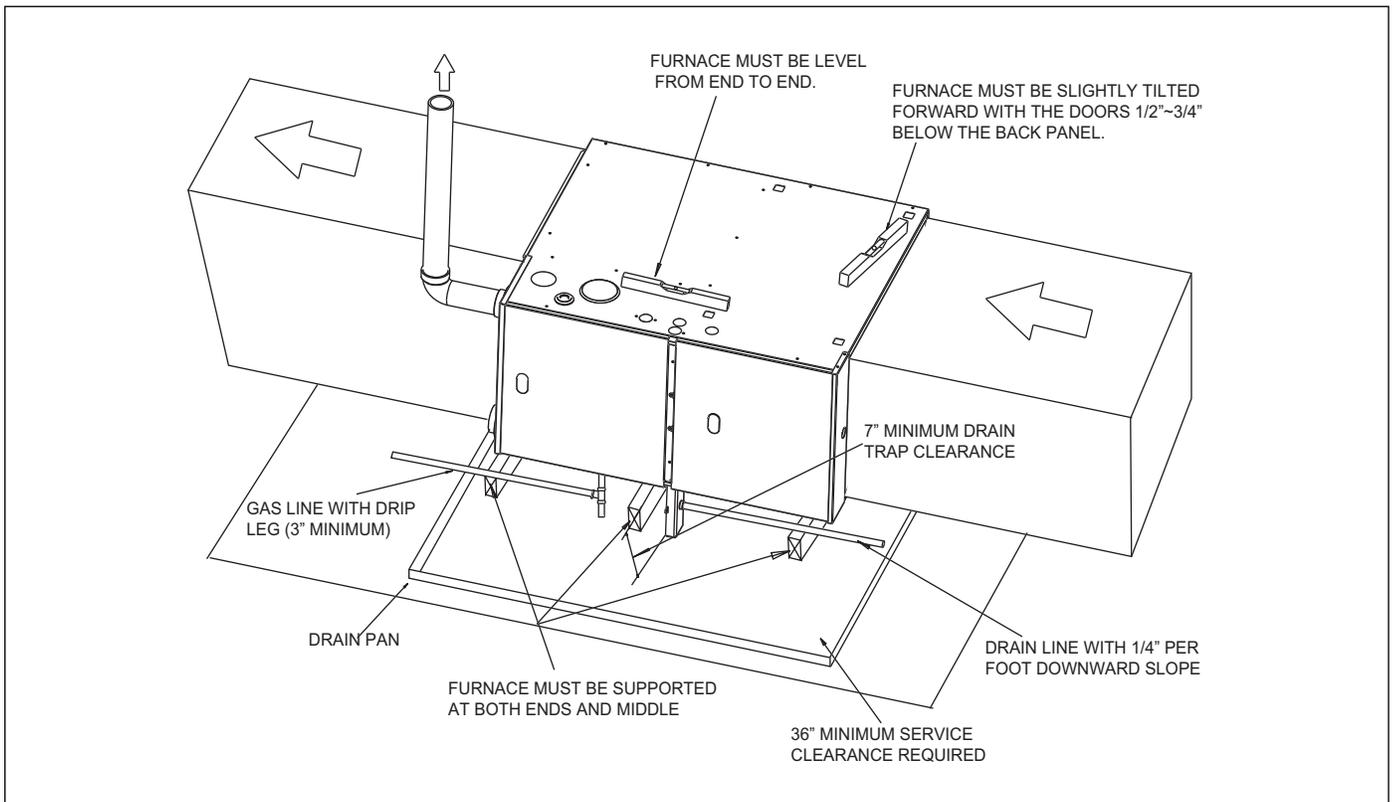

Figure 11 Horizontal Installation
5. Connect  $\Phi 16$  mm hose between condensate collector box and drain trap and connect  $\Phi 14$  mm hose between inducer drain port and drain trap. (see Fig. 11).